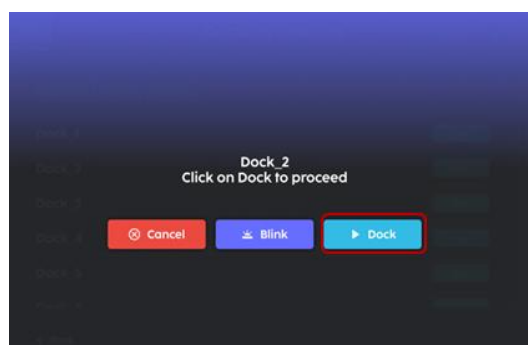

FIGURE 3-25
6. Select 'Dock' to proceed (Fig. 3-25)